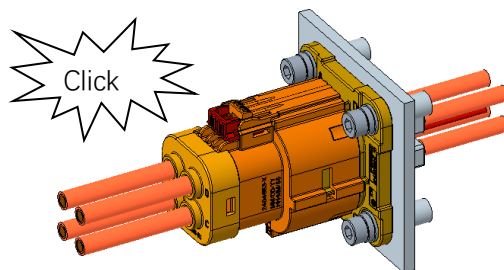

Figure 9
2. Push the plug connector and header connector together fully until they stop (click will be heard) as shown in Figure 9.
如图 9 所示，将公母端连接器完全推到一起，直到他们停止（将听到咔嗒声）。